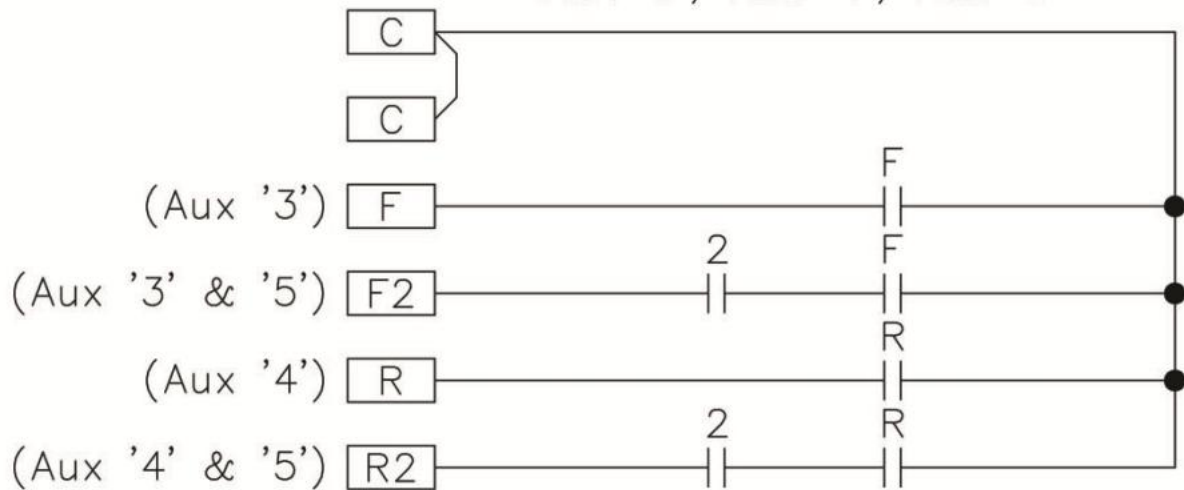

Fig 4-4(T5): Output Circuit Functional Diagram
- 4.4.4 Auxiliary circuits* - ‘Aux 1’ & ‘Aux 2’ have separate commons (X1), having separate output contacts and terminals, for both normally open (N.O.) and normally closed (N.C.) contacts. See figure 4-4(T5) and Output Circuit drawings for logic of internally, prewired circuits.
- 4.4.5 Auxiliary circuits - ‘Aux 3’, ‘Aux 4’ & ‘Aux 5’ use (1) common (X1), having separate output contacts and terminals. ‘Aux 3’ & ‘Aux 4’ are electrically interlocked. ‘Aux 5’ is used in conjunction with ‘Aux 3’ & ‘Aux 4’, having separate outputs for each pairing. See figure 4-4(T5) and output circuits drawing for logic of internally, prewired circuits.